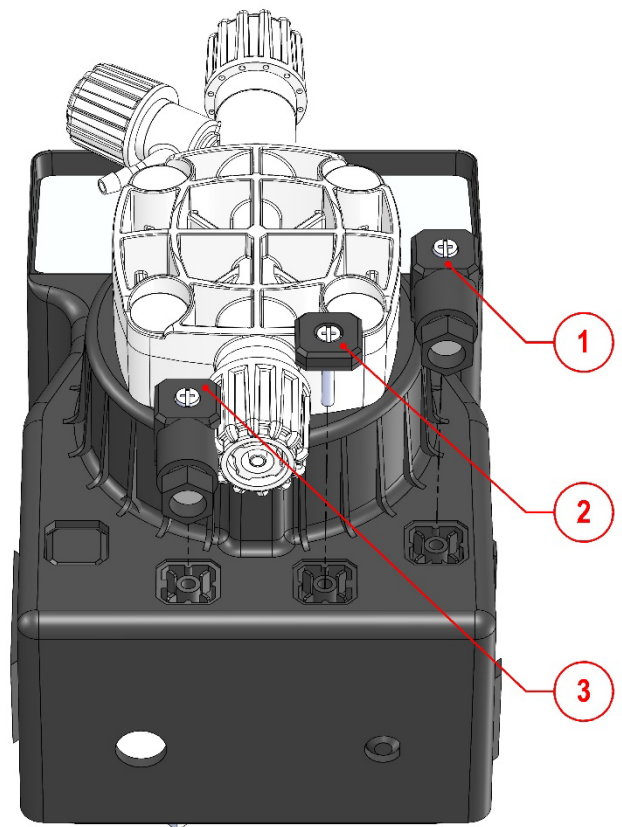

Fig. 9 - Output connectors
With reference to Figure 9, the pump is fitted with a male connector on the right for relay service output, in the centre the male connector for level probe (on demand), on the left the male connector for pulse counter - mA input. To connect the female connector (1), use a Phillips or flathead screwdriver on its screw, then pull it in the direction shown in the figure and uncouple it from the male connector on the dosing pump. Refer to Table 1 below for electrical connections, then proceed backwards to attach the connector to the pump. Proceed in the same way for connector (3). The cap (2) can, on demand, be replaced by a female connector to allow the input connection of a level switch (supplied on demand).
Connection to relay service output (valid when pump is powered). Configuration used: PIN 1 = Normally open PIN 2 = Normally closed PIN 3 = Common PIN 1 with ground symbol = Not connected Position 1 in Fig.9.
Connection of level probe (remote control) Configuration used: PIN 3 = Level probe wire (remote control) PIN 4 = Level probe wire (remote control) Optional, for standard supplies there is the position cap 2 in Fig.9.
Connection for pulse counter - mA input Configuration used: PIN 1 = Wire (+) mA signal PIN 2 = Wire (-) mA signal PIN 3 = Counter activation command wire. PIN 4 = Counter activation command wire. Position 3 in Fig.9.